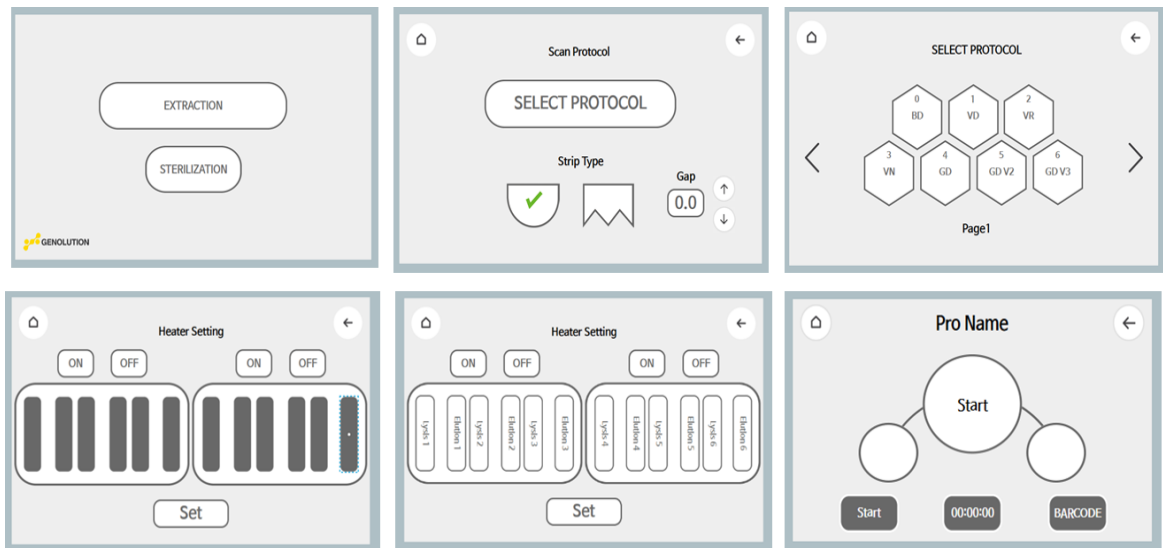

Figure 5: Protocol setting screens
8. Select Extraction → Select Round Strip Type → Select Protocol → Select GD → Touch the On / OFF button to select the heating region for the left and right plate loader → Press the Set button to complete the setting → START (Figure 5).